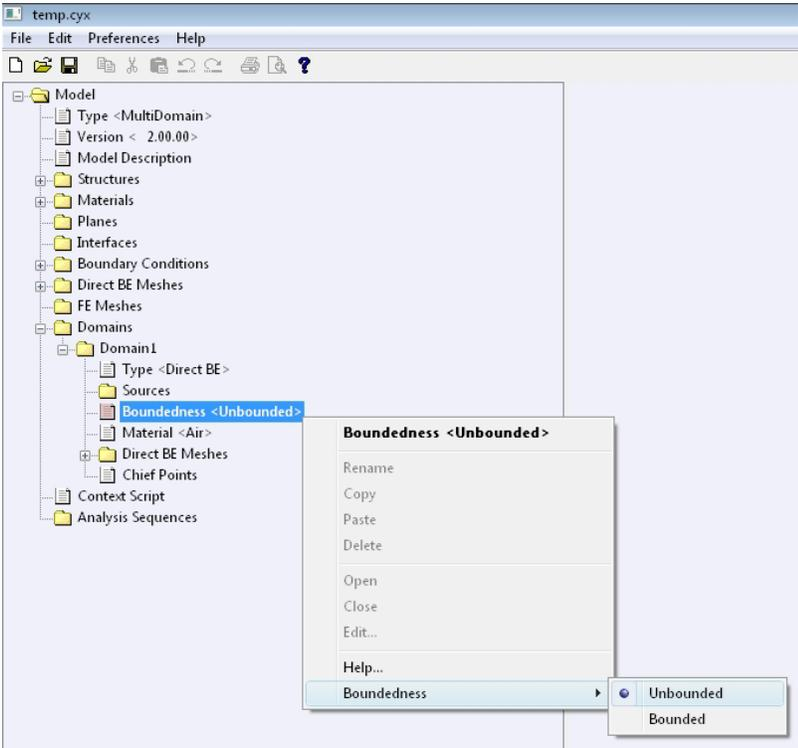

Figure A.20 Specifying boundedness of the domain.
- Specify the type of acoustic problem by selecting: **Model** → **Domains** → **Domain1** or  $\langle Domain\ Name \rangle$  → **Boundedness**. The radiation from a gearbox housing is an exterior or unbounded acoustic problem. Right-click on **Boundedness** and select: **Boundedness** → **Unbounded** as shown in Figure A.20.